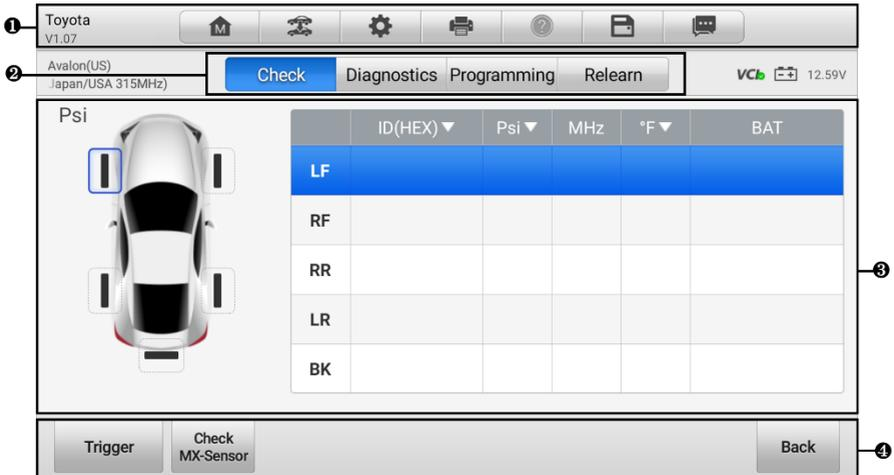

Figure 6-8 TPMS Service Screen
3. Select **Auto Detect**. The tablet starts VIN scanning on the vehicle's ECU. Once the test vehicle is successfully identified, the system will guide you to the TPMS Service screen. See Figure 6-8 TPMS Service Screen.